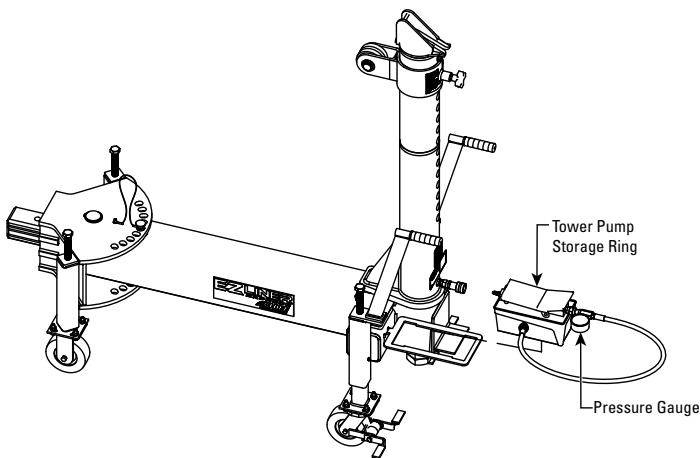

Figure 11
9. Insert the Tower Pump into the Tower Pump Storage Ring. The Tower Pump can be identified by having a hose with a male disconnect attached and a pressure gauge (see Figure 11).